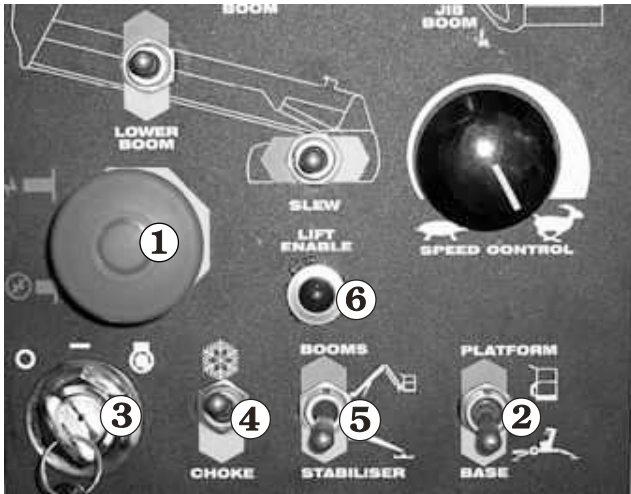
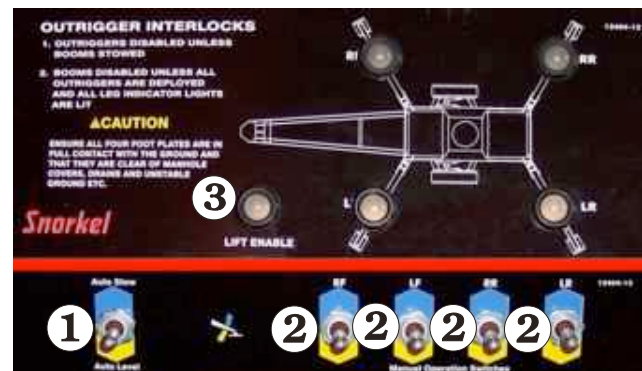

Figure 8.3 - Ground Control Box Starting
Figure 8.4 - Auto Level Controls
1. Set the **Emergency Stop** switch **①** to ON (see Figure 8.3).
2. Set the **Platform/Ground Selector** switch **②** to GROUND (see Figure 8.3).
3. Insert the key **③** (see Figure 8.3) into the **Master Key Switch** and turn the key on.
4. If the engine is at ambient temperature (cold), hold the **Choke / Cold Start Switch** **④** (see Figure 8.3) up throughout the next step.
5. Turn the key to **Start** and hold it there until the engine starts or for a maximum time of 6 seconds. When the engine starts release the key **③** and the choke switch **④**, if you used it (see Figure 8.3).
Ensure the boom/stabiliser switch (item **⑤** on the ground control box) (see Figure 8.3) is set to stabiliser.
When levelling the machine in either the manual or automatic mode care is required to ensure that all of the foot plates are firmly on the ground, the machine is level and the lift enable light (item **⑥ Fig 8.3, and item **③** Fig 8.4) is ON before entering the platform.**
1. Operate each switch **2** (see Figure 8.4) to raise or lower each stabiliser one at a time. Use the level bubble (see Figure 2.7 in Safety Devices Chapter) to check the machine is level.